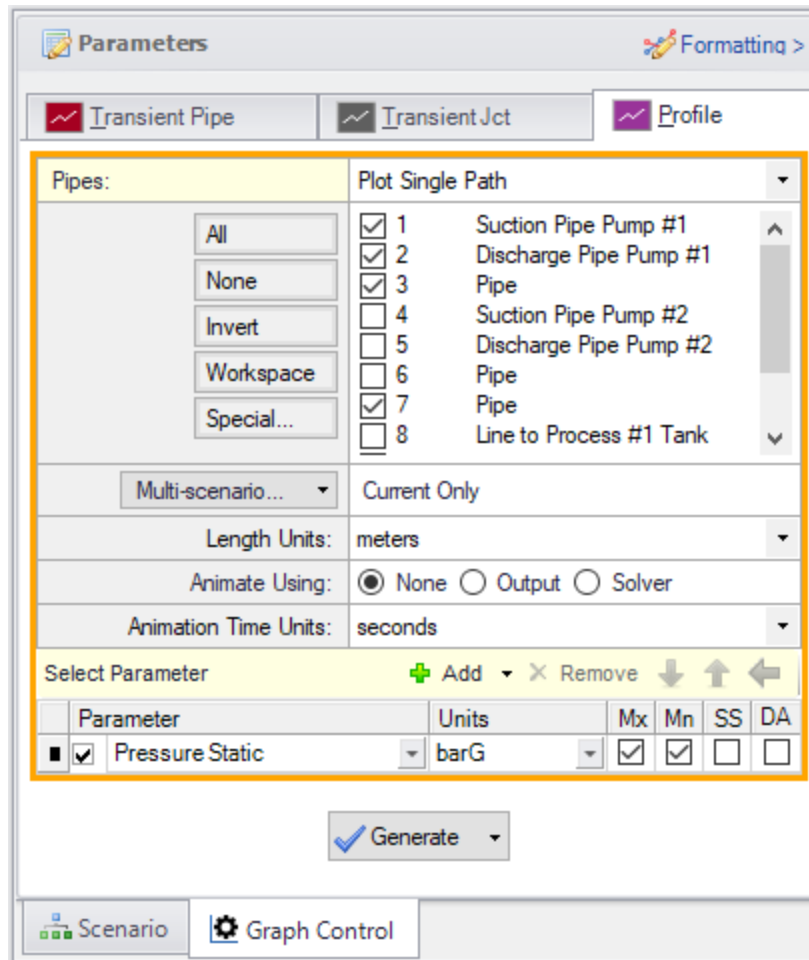
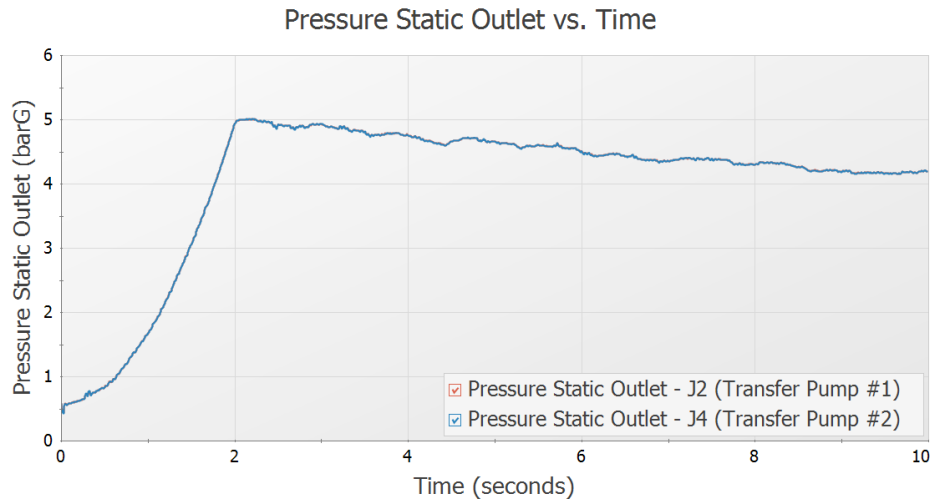
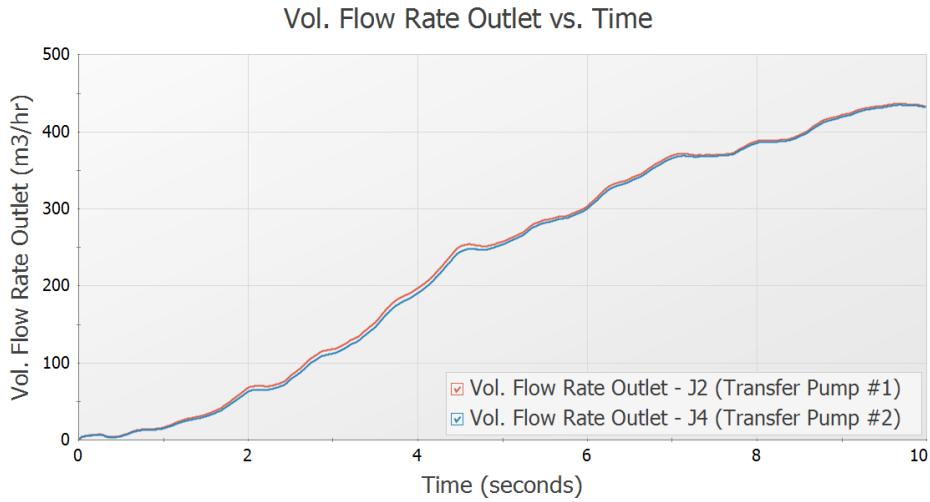

Figure 6: Select Graph Data for creating a pressure profile
Figure 8: Pressure transient at both pump discharge locations for Two Pump Start scenario
Figure 9: Flow rate transient at both pump discharge locations for Two Pump Start scenario
1. Select the Profile tab on the Quick Access Panel, as shown in Figure 6.
Since the maximum pressure is at the pump discharge, it is of interest here to plot the pressure vs. time at the pump. Go to the Transient Jct tab on the Quick Access Panel. Add the two pumps to the Graph These Junctions section. Select the Graph Parameter as Pressure Static Outlet and set the units to barG. Click Generate. As would be expected, both pressure transients are very similar. Results are shown in Figure 8. Click the Add Graph to List button on the Graph Results Toolbar (or by right-clicking on the graph and choosing Add Graph to List) and type the name *Pump Discharge Pressures* to save this graph to the Graph List Manager as well.
The flow rates through the pumps are also of general interest, and can also be plotted as shown in Figure 9 by changing the parameter being graphed to Vol. Flow Rate Outlet. Add this graph to the Graph List Manager as well and name it *Pump Discharge Flow Rates*.
It should be noted that the graphs in Figure 8 and Figure 9 could also be generated by using the Transient Pipe tab to graph the static pressure and volumetric flow rate at the inlet of pipes P2 and P5.
Create graphs similar to Figure 6 through Figure 9 for each of the scenarios by double-clicking on the graph names in the Graph List Manager. This will reveal that the maximum pressure for the One Pump Start scenario occurs at the pump discharge location, similar to the first scenario, but in the One Pump Start With One Running scenario the maximum pressure occurs in pipe P11. Also the pressure drops below atmospheric, but does not reach the vapor pressure of water.